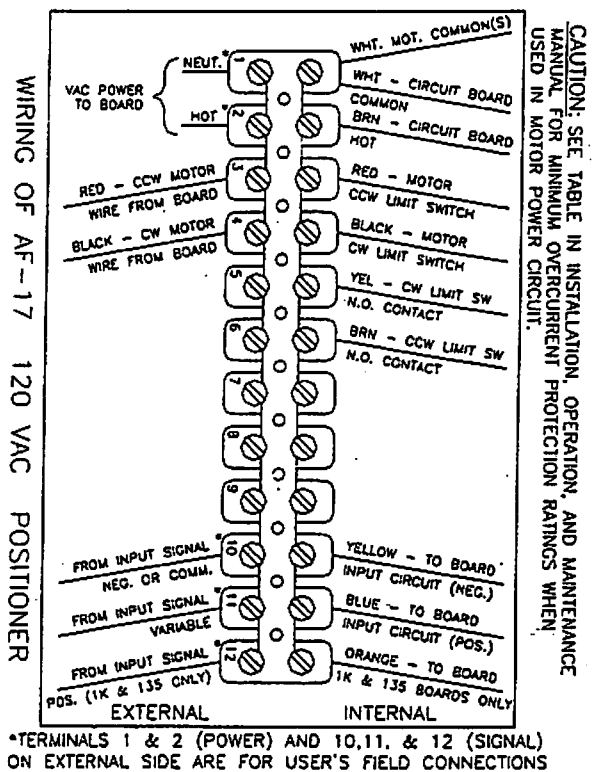
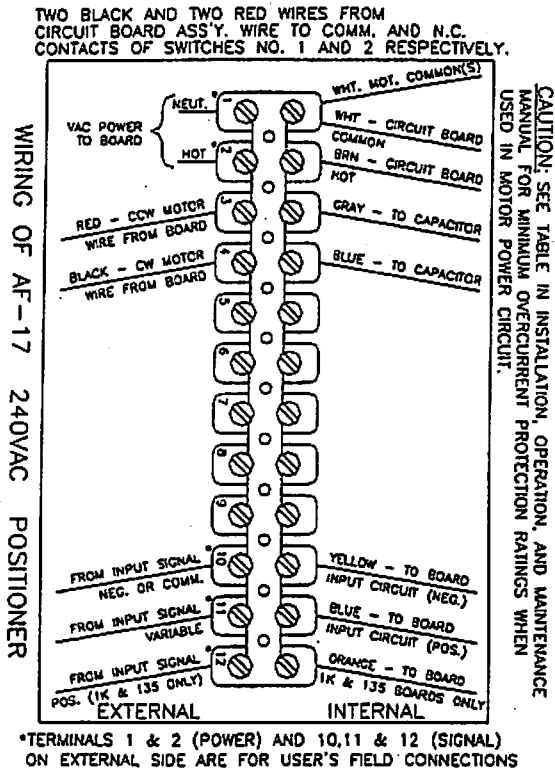

Figure 5
Figure 6
3.4.1 The AF-17 positioner board is wired to the terminal strip per Figure 5 for 120 VAC or Figure 6 for 240 VAC. **CAUTION:** Wiring should be inserted only to mid-point of terminal strip.
The AC power switching circuits on the circuit board connect to actuator terminals 3 and 4. The circuit board's CCW power control circuit connects to terminal 3 via the positioner's red wire and the CW power control circuit connects to terminal 4 via the positioner's black wire. (Reference Figures 5 and 6). The actuator's motor "Common" must connect to the positioner board's white wire and AC "neutral" for correct actuator operation.
Replace the original gray & blue actuator wires (make a note of which color wire is on which capacitor terminal and then discard them) with those provided. Connect them to the capacitor as originally wired and to terminals 3 and 4 (gray to no. 3, blue to no. 4) (reference Figure 6).